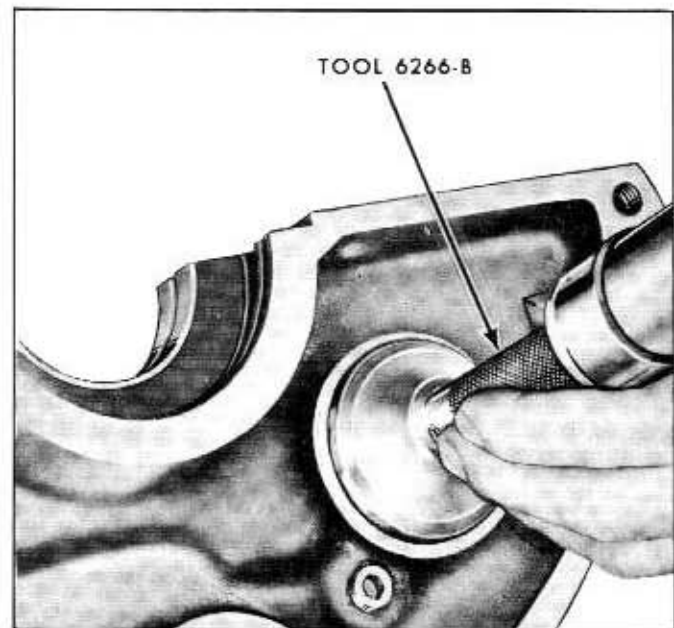

Fig. 6A-31—Camshaft Rear Bore Plug Installation—(60C-5629)
19. Coat the flange of a new plug with water resistant sealer and install it with the flange facing out. See figure 6A-31.
21. The camshaft and related parts are shown in figure 6A-32. Oil the camshaft and apply lubriplate to all camshaft lobes. Carefully slide the camshaft through the bearings.